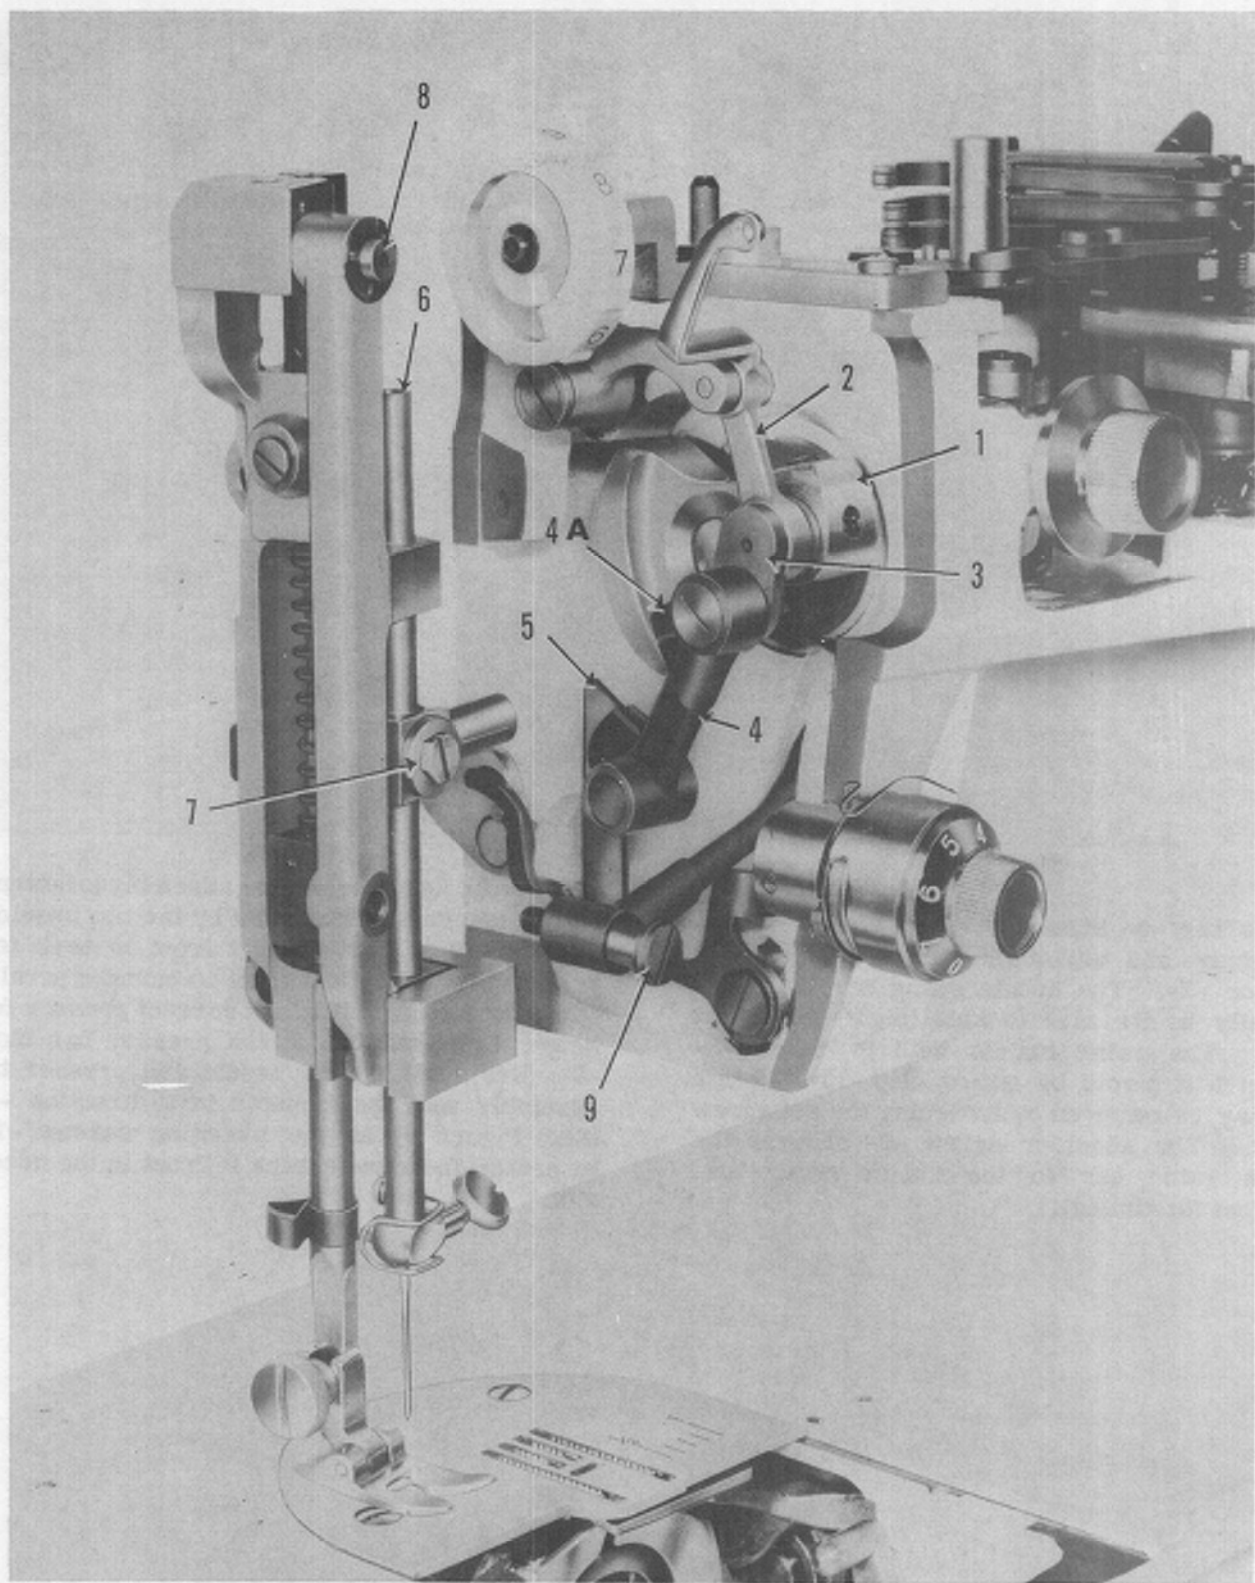

Figure 6
Figures 6 to 8
Play sometimes develops in the connection between the needle-bar connecting rod (Figure 6 No. 4) and the sleeve of the crank (Figure 6 No. 3). To correct this, adjust the screw (Figure 6 No. 4A) in the split of the connecting rod.
3. If bind seems to be in the needle bar, check the alignment of the needle bar guide plate (Figure 6 No. 5). Realign guide plate by loosening and resetting two screws. To obtain access to these screws loosen the tension assembly set screw and remove the tension assembly. Insert screwdriver through the hole in the casting and loosen the two screws.